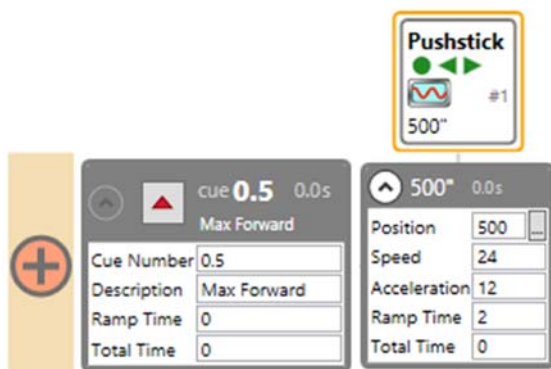

Figure 92
4. Change the **Position** number in the **Cue Grid** to match the value you entered as the **Max Forward Position**. (Figure 92).